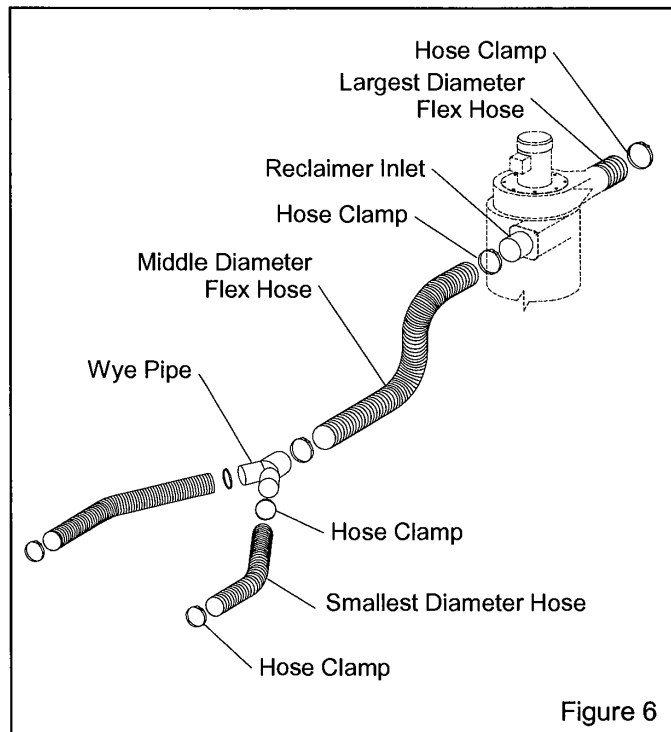

Figure 6
2.4 Connect Conveying Hose, Ref. Figure 6